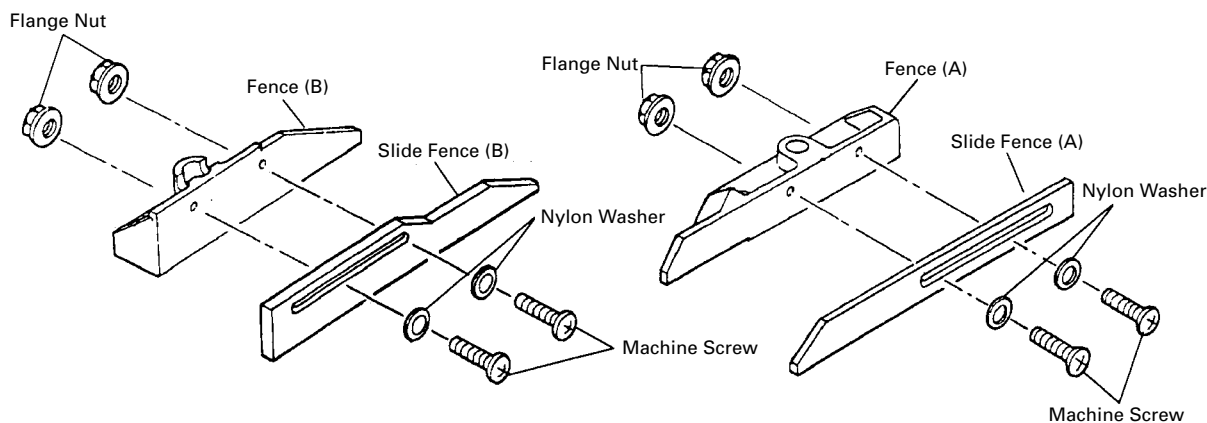

Fig. 19
- (1) Set slide fence (A) and slide fence (B) on fence (A) and fence (B) of the base.
- (2) To attach use the four machine screws with nylon washers and flange nuts as shown in Fig. 19.
- (3) Adjust slide fence (A) and slide fence (B) to stabilize the workpiece. Adjustable range of slide fence (A) and slide fence (B) is from 0 to 3-3/4" (0 to 95mm).
- (4) Confirm the position of slide fence (A) and slide fence (B) on fence (A) and fence (B) with four machine screws tightly so slide fence (A) and slide fence (B) do not move (see Fig. 19).
**⚠ CAUTION:** \* Before operation, ensure that the saw blade does not contact slide fence (A) and slide fence (B). In case the saw blade contacts slide fence (A) and slide fence (B), adjust the position of slide fence (A) and slide fence (B) again.